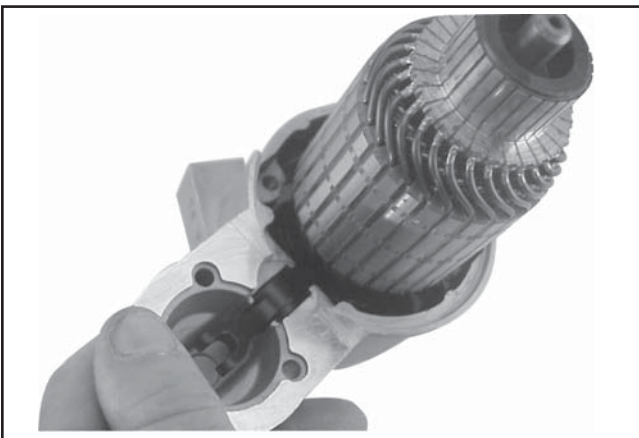

Figure 7-26. Installing Armature and Pivot Lever.
**NOTE:** Correctly installed, the center pivot section of the drive lever will be flush or below the machined surface of the housing which receives the backup washer. See Figure 7-26.